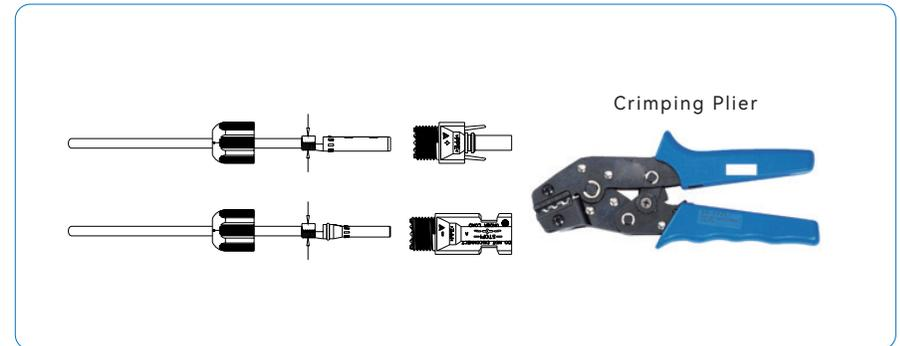

Figure 5-7
4) Insert the DC cable through the DC connector nut into the metal terminal and press the terminal with a professional crimping plier (pull back the cable with some power to check if the terminal is well connected to the cable), as shown in Figure 5-7: